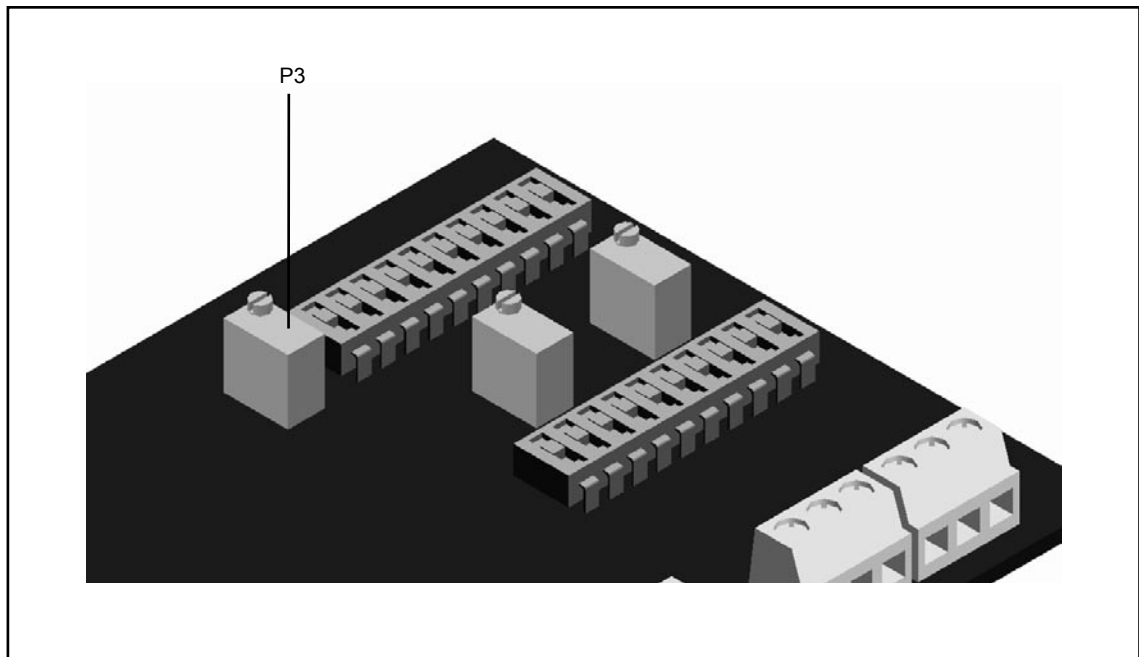

Fig. 5-12 : Potentiometer P3 location on the circuit board.
- Precisely adjust the voltage (for instance 8 V in the maximum position) or the current with the potentiometer P3 (refer to figure 5-12 for the potentiometer location on the circuit board).